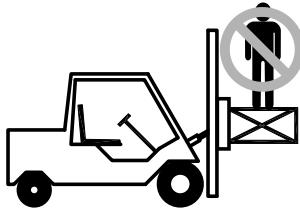

Figure 3-1,
- Never stand on top of material being raised, lowered, or transported. (Figure 3-1)